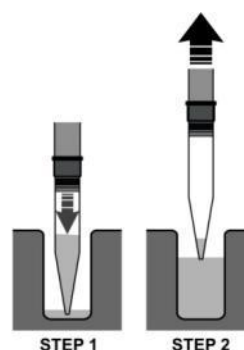

Figure 20. Pipetting technique for chip reagents.
- Positive-displacement pipettes are recommended for dispensing reagents into the chip to help prevent introducing bubbles into the chip wells. If using standard pipettes, dispense reagents into the chip as shown in **Figure 20**.